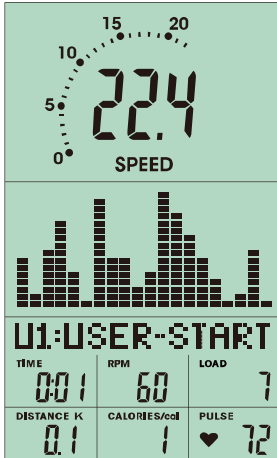
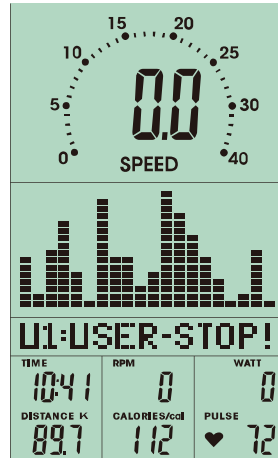

FIGURE 25
FIGURE 26
1. After entering USER PROGRAM mode, the first column of the profile is blinking (FIGURE 25). User may turn the joggle wheel to adjust the resistance level (FIGURE 26) to create his/her own profile.